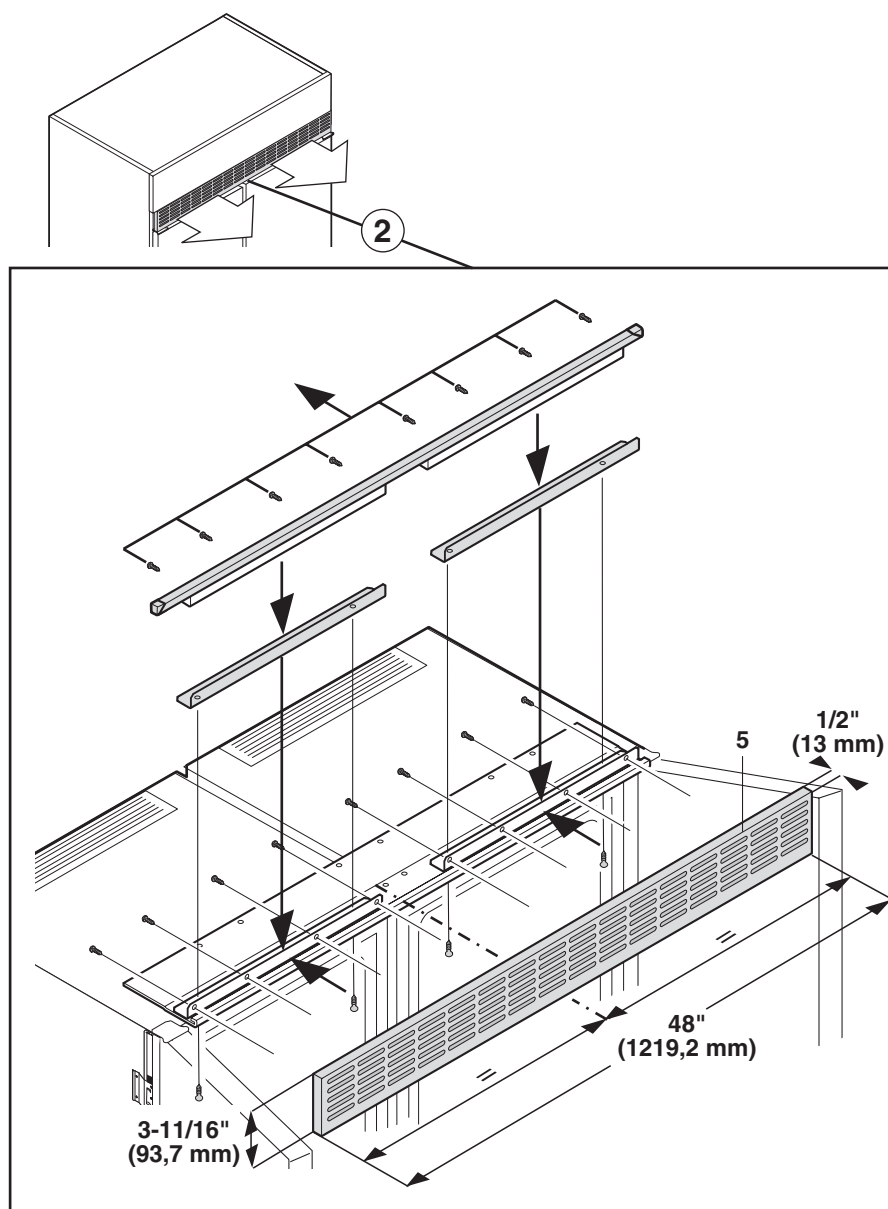

Figure 34
2. **Figure 34:** Cut out the wooden trim for use as a ventilation grille using the attached template.
- Remove the attachment brackets from the installation frame (2) and screw them to the appliance from underneath.
- Place the wooden ventilation grille (5) on the appliance, align it in the center and secure it from the rear using the attachment brackets.